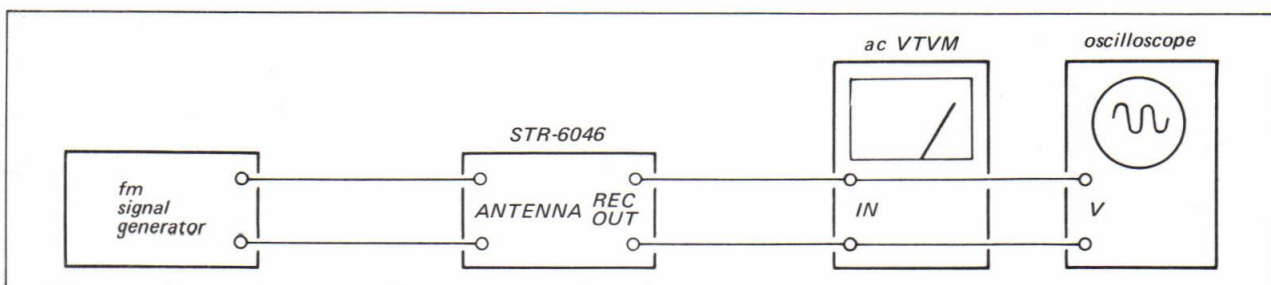

Fig. 3-9. Fm frequency coverage and tracking alignment test setup
- Connect the equipment as shown in Fig. 3-9.